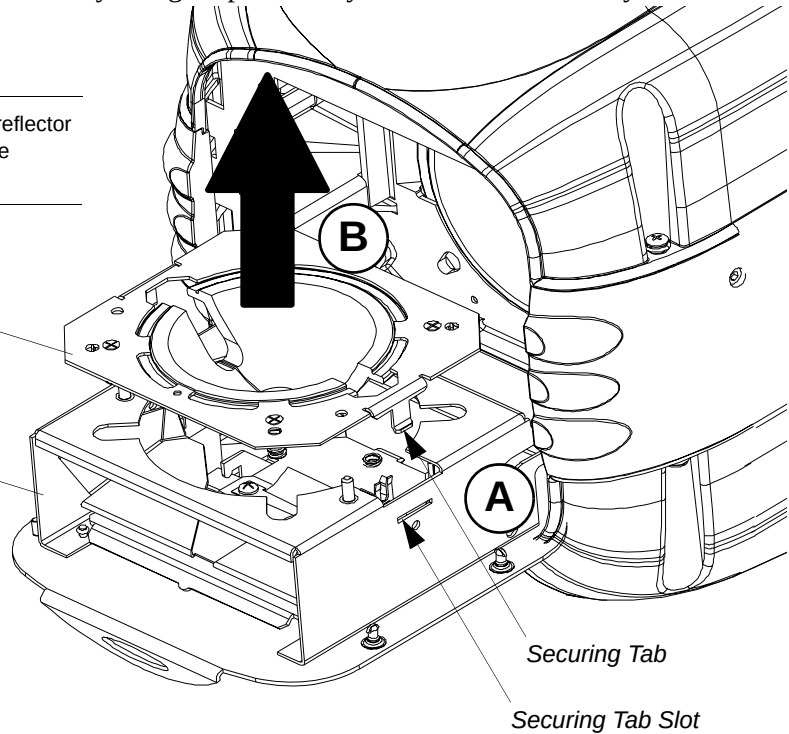

Figure 2-6: Reflector Removal
- Press tabs (one on each side) securing reflector assembly into hot box (as shown in Figure 2-6), inwards to release reflector assembly.